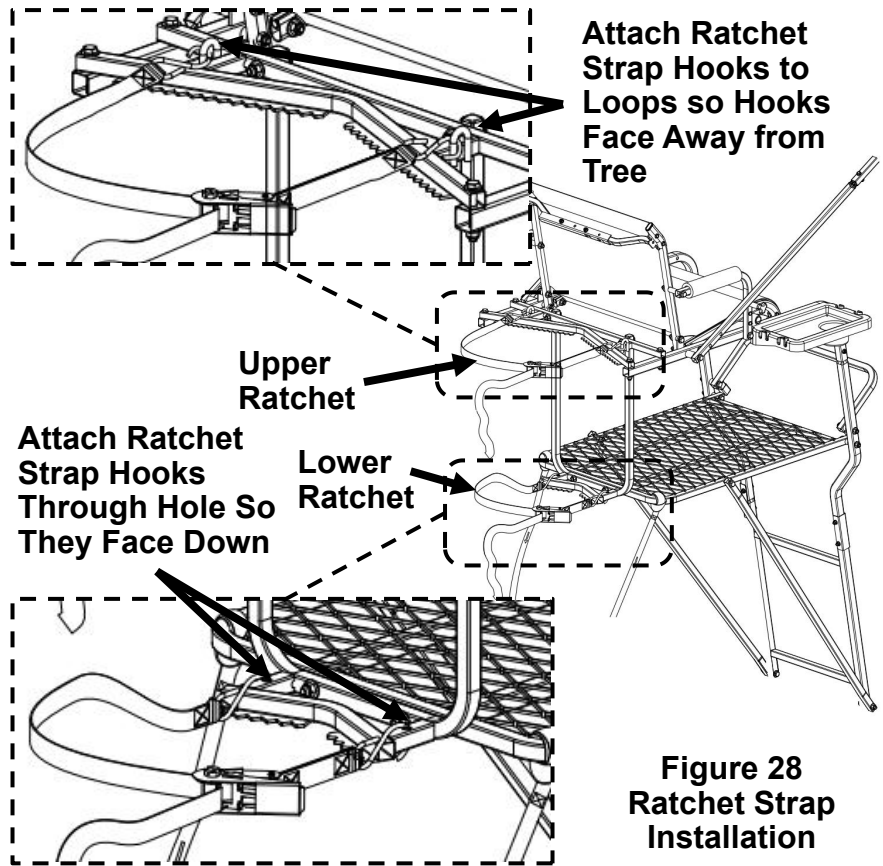

Figure 28
STEP 9b: After your tether has been attached to the tree trunk securing your position, attach the ratchet straps (#24) to secure the top of the stand to the tree. First, install upper ratchet strap (#24) by attaching hook onto loop (hook facing away from tree) on Tree Brace (#1) and wrap the strap around tree trunk and attach to loop (hook facing away from tree) on opposite side of Tree Brace as shown in Figure 28. Using ratchet, tighten strap so it is very tight. Install second lower ratchet strap (#24) by attaching hook through hole (hook faces down) on Seat Support Frame w/ Tree V Brace (#11) and wrap strap around tree trunk and attach hook to hole on opposite side of Tree V Brace as shown in Figure 28. Using ratchet, tighten strap so it is very tight.